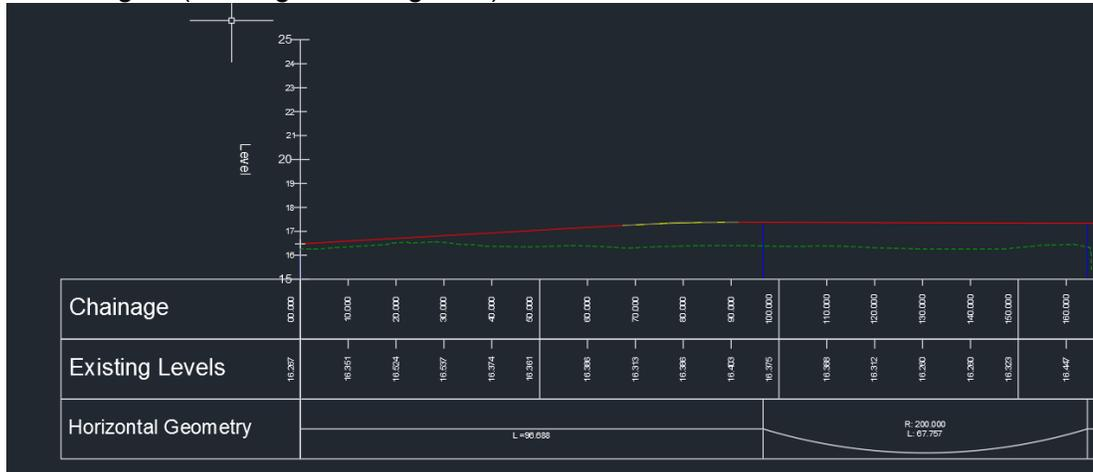
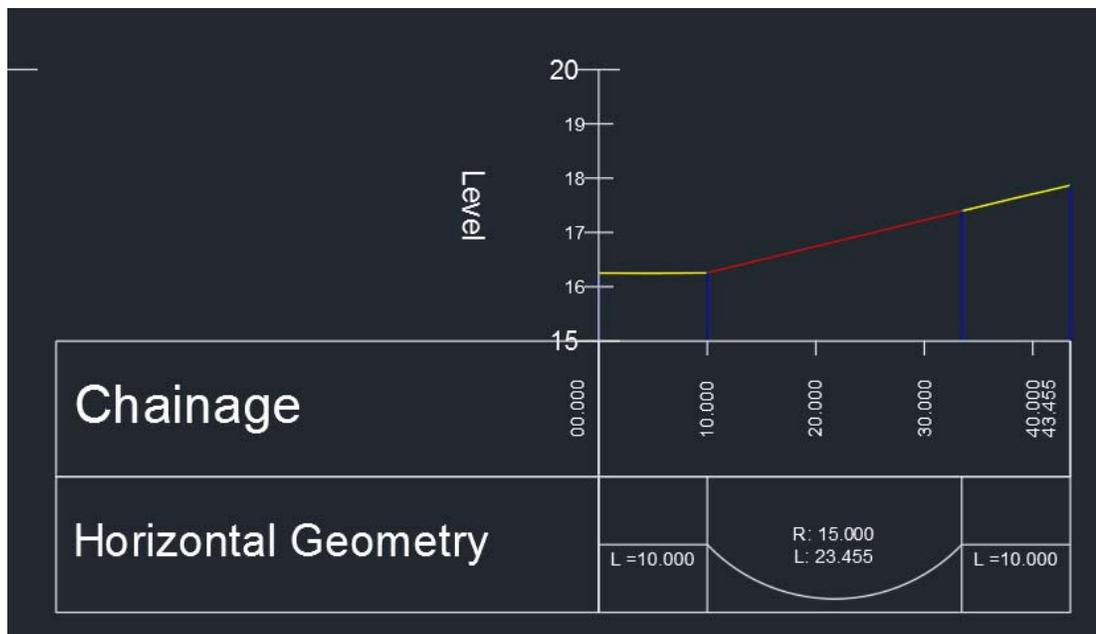

FIGURE 5 - BASE SIDE ROAD PROFILE
FIGURE 8 - CONNECTED ALIGNMENT DYNAMIC PROFILE FROM MODIFIED PROFILE
- Large changes to the centreline vertical profiles can cause chosen minimum curves / K values of the connected alignment dynamic profile to be overridden and replaced with straights (See Figure 5 - Figure 8)